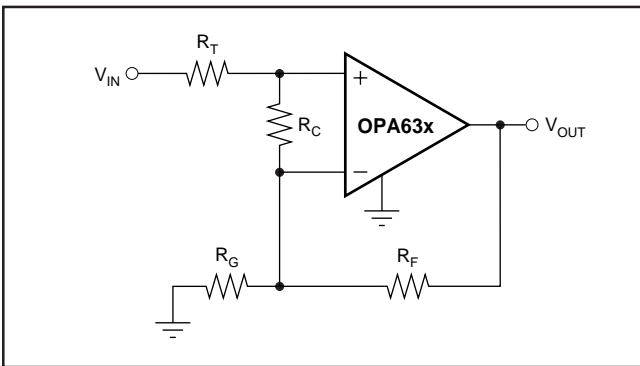

FIGURE 4. Compensated Non-Inverting Amplifier.
Figure 4 shows a non-inverting amplifier that reduces peaking at low gains. The resistor R_C compensates the OPA631 or OPA632 to have higher Noise Gain (NG), which reduces the AC response peaking (typically 5dB at $G = +1$ without R_C) without changing the DC gain. V_{IN} needs to be a low impedance source, such as an op amp. The resistor values are low to reduce noise. Using both R_T and R_F helps minimize the impact of parasitic impedances.
Since the OPA631 and OPA632 are voltage feedback op amps, a wide range of resistor values may be used for the feedback and gain setting resistors. The primary limits on these values are set by dynamic range (noise and distortion) and parasitic capacitance considerations. For a non-inverting unity gain follower application, the feedback connection should be made with a 25Ω resistor, not a direct short (see Figure 4). This will isolate the inverting input capacitance from the output pin and improve the frequency response flatness. Usually, for $G > 1$ application, the feedback resistor value should be between 200Ω and $1.5k\Omega$. Below 200Ω , the feedback network will present additional output loading which can degrade the harmonic distortion performance. Above $1.5k\Omega$, the typical parasitic capacitance (approximately $0.2pF$) across the feedback resistor may cause unintentional band-limiting in the amplifier response.
Resistors should be a very low reactance type. Surface-mount resistors work best and allow a tighter overall layout. Metal film or carbon composition axially-leaded resistors can also provide good high frequency performance. Again, keep their leads and PC board traces as short as possible. Never use wirewound type resistors in a high frequency application. Since the output pin and inverting input pin are the most sensitive to parasitic capacitance, always position the feedback and series output resistor, if any, as close as possible to the output pin. Other network components, such as non-inverting input termination resistors, should also be placed close to the package. Where double-side component mounting is allowed, place the feedback resistor directly under the package on the other side of the board between the output and inverting input pins. Even with a low parasitic capacitance shunting the external resistors, excessively high resistor values can create significant time constants that can degrade performance. Good axial metal film or surface-mount resistors have approximately 0.2pF in shunt with the resistor. For resistor values $> 1.5\text{k}\Omega$, this parasitic capacitance can add a pole and/or zero below 500MHz that can effect circuit operation. Keep resistor values as low as possible consistent with load driving considerations. The 750Ω feedback used in the typical performance specifications is a good starting point for design. See Figure 4 for the unity gain follower application.